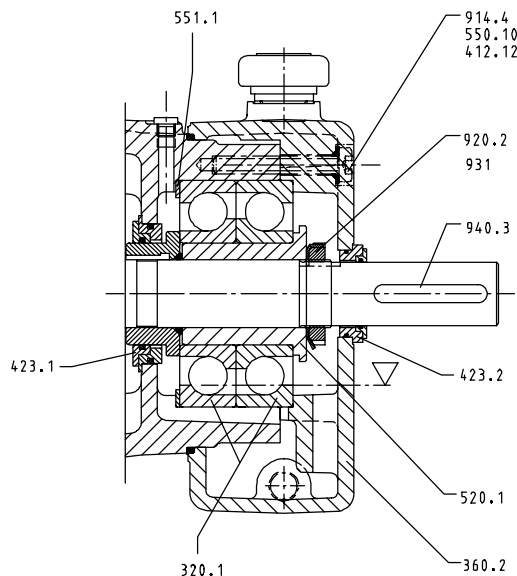

Fig. 29
**Oil lubrication with labyrinth seal (fig. 29)**